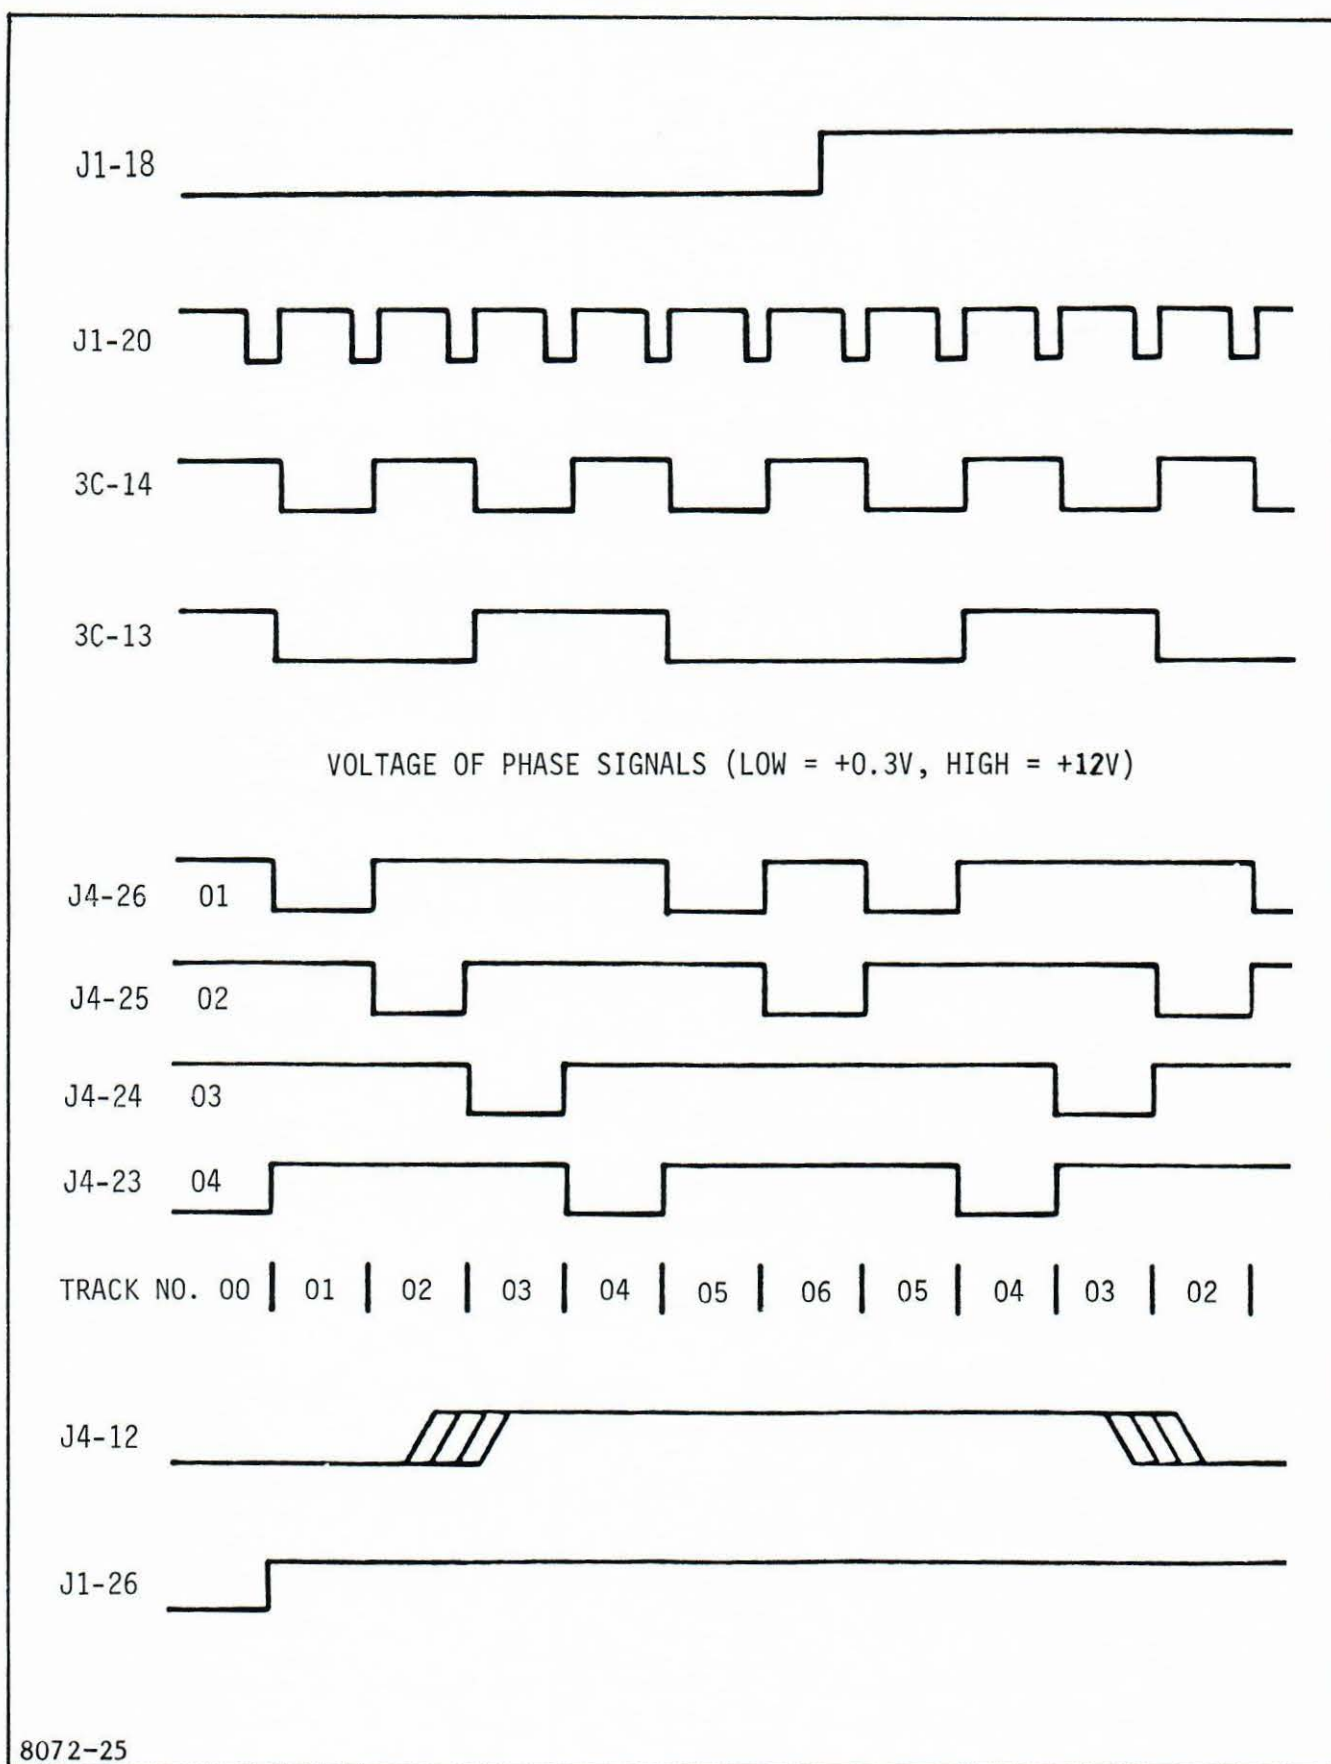

Figure 4-7. Stepper Motor Control Timing
1. With DIRECTION input low, apply stepping pulses and monitor stepper motor control logic for proper signals as shown by timing diagram, figure 4-7.
3. If signals measured are as shown by figure 4-7, replace the stepper motor.